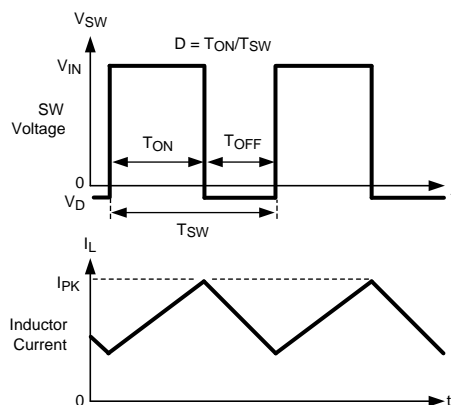

Figure 21. LMR12010 Waveforms of SW Pin Voltage and Inductor Current
The following operating description of the LMR12010 will refer to the Simplified Block Diagram (Figure 20) and to the waveforms in Figure 21. The LMR12010 supplies a regulated output voltage by switching the internal NMOS control switch at constant frequency and variable duty cycle. A switching cycle begins at the falling edge of the reset pulse generated by the internal oscillator. When this pulse goes low, the output control logic turns on the internal NMOS control switch. During this on-time, the SW pin voltage (V_{SW}) swings up to approximately V_{IN} , and the inductor current (I_L) increases with a linear slope. I_L is measured by the current-sense amplifier, which generates an output proportional to the switch current. The sense signal is summed with the regulator's corrective ramp and compared to the error amplifier's output, which is proportional to the difference between the feedback voltage and V_{REF} . When the PWM comparator output goes high, the output switch turns off until the next switching cycle begins. During the switch off-time, inductor current discharges through Schottky diode D1, which forces the SW pin to swing below ground by the forward voltage (V_D) of the catch diode. The regulator loop adjusts the duty cycle (D) to maintain a constant output voltage.
In the Simplified Block Diagram of Figure 20, capacitor C_{BOOST} and diode D2 supply the gate-drive current for the NMOS switch. Capacitor C_{BOOST} is charged via diode D2 by V_{IN} . During a normal switching cycle, when the internal NMOS control switch is off (T_{OFF}) (refer to Figure 21), V_{BOOST} equals V_{IN} minus the forward voltage of D2 (V_{FD2}), during which the current in the inductor (L) forward biases the Schottky diode D1 (V_{FD1}). Therefore the voltage stored across C_{BOOST} is